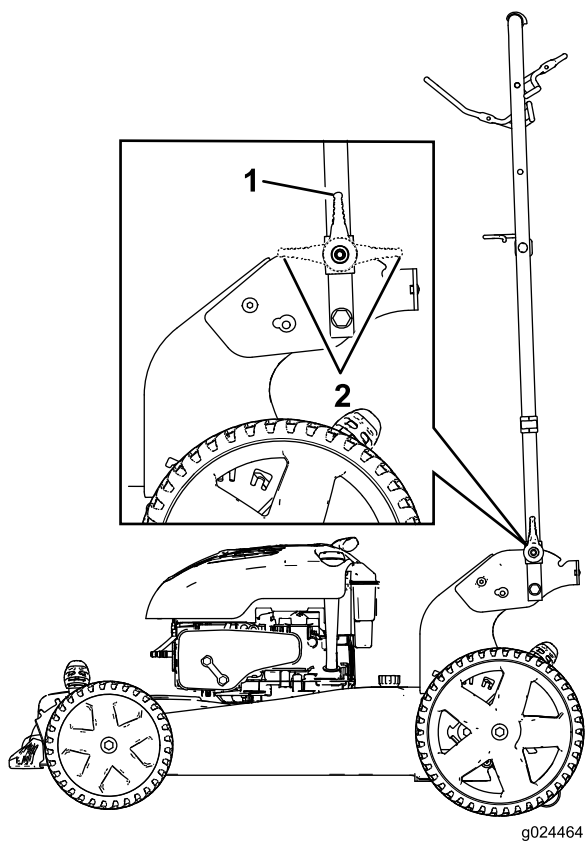

Figure 27
2. Fold the handle forward either to the vertical position or the fully forward position as shown in Figure 27.